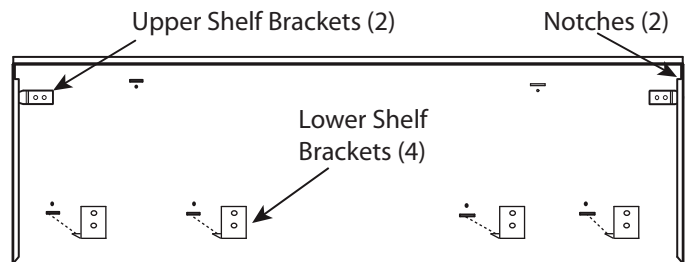

Figure 15: 48" Back of Wall Plate
2. Mount the (2) upper shelf brackets and the (3) lower shelf brackets on the 30" & 36" models or (4) lower shelf brackets for the 48" model at the locations outlined on the templates. Secure with (10) 1" (25.4 mm) screws provided.
5. Install the wall plate by setting the corner notches (back of wall plate) atop the (2) upper shelf brackets.
6. Slide the shelf upwards until the bottom engages with the (3) lower brackets on the 30" & 36" models or (4) brackets for the 48" models (Figure 15).